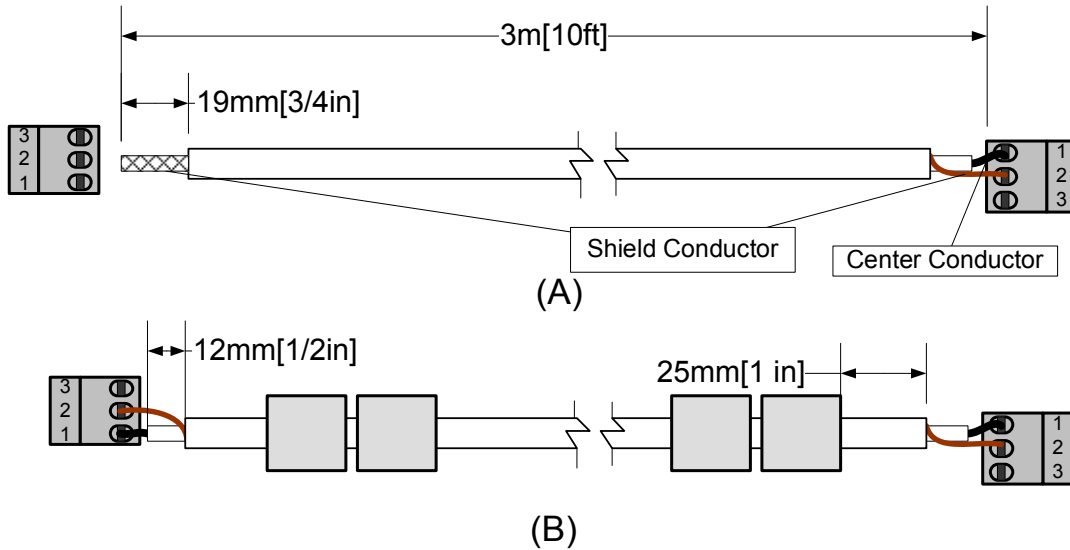

Figure 6 RG 59 Coax cable wiring diagram
1. Strip the coax cable jack off for about 19mm [3/4in] at the un-terminated end, as shown in Figure 6 RG 59 Coax cable wiring diagram (A).
6. Figure 6 RG 59 Coax cable wiring diagram (B) shows the RG59 cable assembly been completely terminated with ferrite cores clamped on both ends.
- Step 2:** Plug the pre-terminated RG59 coax cable onto coupler board J5, then mount two (2) ferrite clippers close to the connector (see *Figure 6 RG 59 Coax cable wiring diagram*).